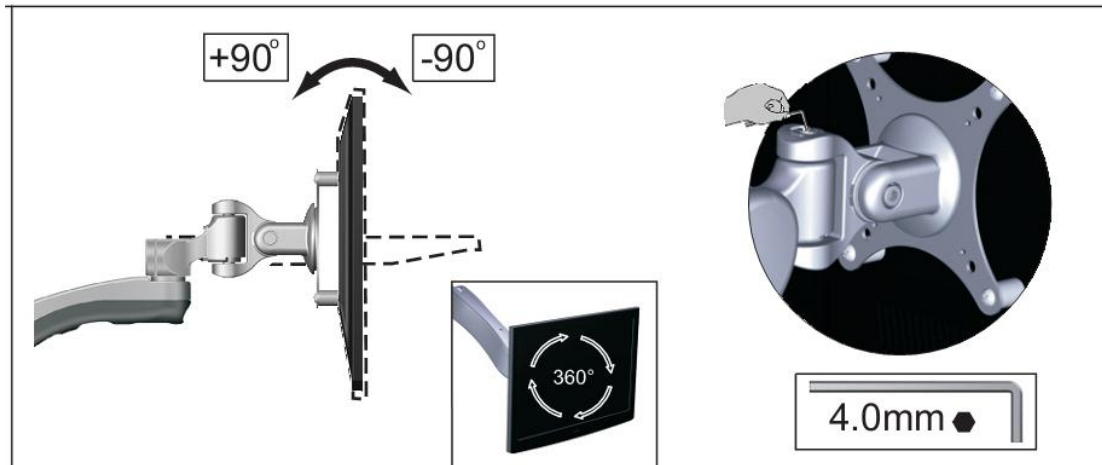

Figure 5-2
3. If the weight of the display monitor causes the Tilter Mount Bracket to tilt, it may be required to adjust the Tilter Mount Bracket joint to suit your display monitor tilt position of ± 90 degrees. This can be done by using Hex Allen Wrench 4mm **(9)**. To increase the resistance of the Tilter Mount Bracket to secure tilt position, adjust the M5x15mm Tension Hex Socket Cap Screw located around the Tilter Mount Bracket using the supplied 4mm Hex Allen Wrench **(See Figure 5-2)**.